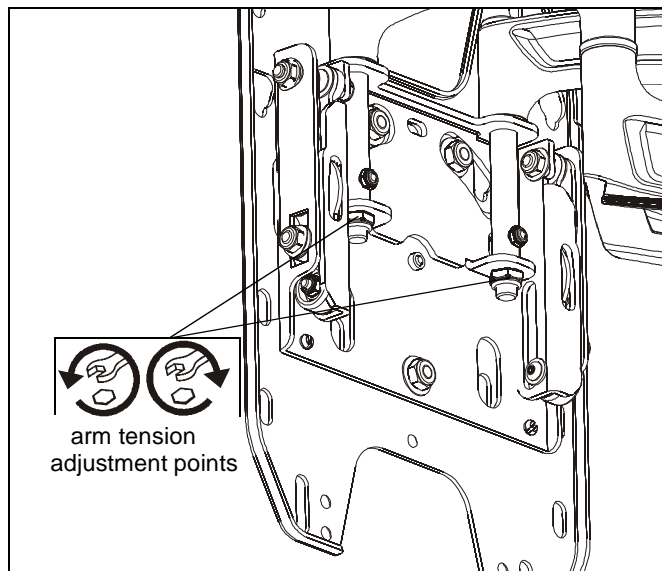

Figure 35
2. Use 9/16" wrench to adjust arm tension directly behind faceplate. (See Figure 35)